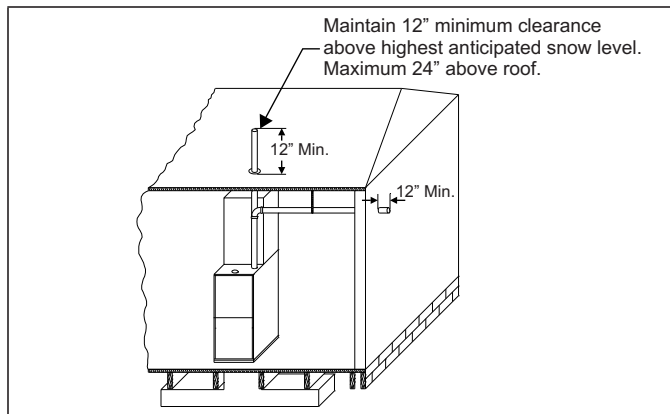
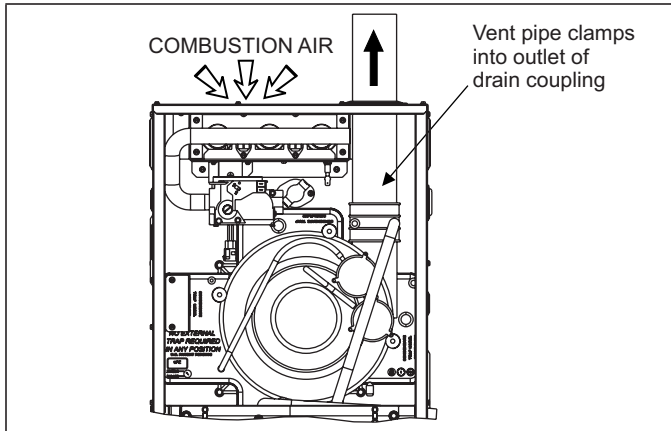

FIGURE 30: Termination Configuration - 1 Pipe
FIGURE 37: Combustion Airflow Path Through The Furnace Casing
The combustion air side of the single pipe configuration shown in Figures 30 and 37 is referred to in these instructions as ambient combustion air supply. Follow the instructions for ambient combustion air installations, paying particular attention to the section on air source from inside the building. The vent for a single pipe system must be installed as specified in the venting section of these instructions with both vents terminating as shown in Figure 30. Each furnace must have a separate vent pipe. Under NO circumstances can the two vent pipes be tied together.
2. **AMBIENT COMBUSTION AIR:** Combustion air is supplied from the area surrounding the furnace through openings in the furnace casing. The combustion air and the vent pipes are not terminated in the same atmospheric zone. Refer to Figure 30 for vent terminations. Refer to "Ambient Combustion Air Supply" for proper installation. Refer to Figures 37 and 38.